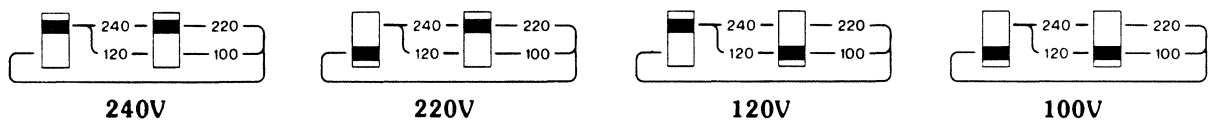

Figure 1-1. Line Voltage Selector Switches
The 9895A can operate on line voltages of 100, 120, 220 or 240 Vac ( $\pm 10\%$ ). The line frequency must be within 2.0% of 50 or 60 Hz. The voltage selector switches on the rear panel must be set to the nominal ac line voltage for the area it is operating in. Figure 1-1 shows the setting of the voltage selector switches for the various line voltages.
2. Check the voltage selection switches on the rear panel (see Figure 1-1). If the setting is incorrect, change it to the correct voltage.